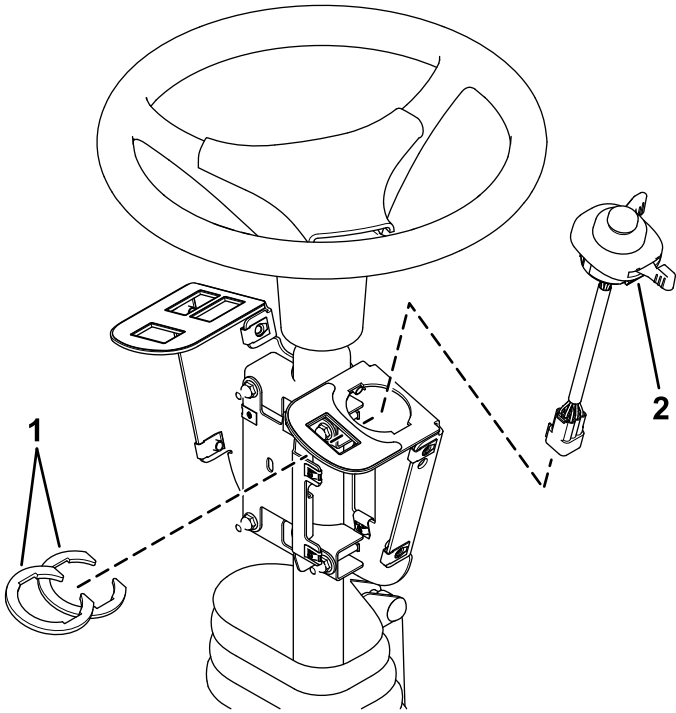

**Figure 3**
- Loosely install the switch mount around the steering column using 4 carriage bolts (1/4 x 2 inches), 2 mounting brackets, fuse-mount plate, and 4 locknuts (1/4 inch) as shown in Figure 3.